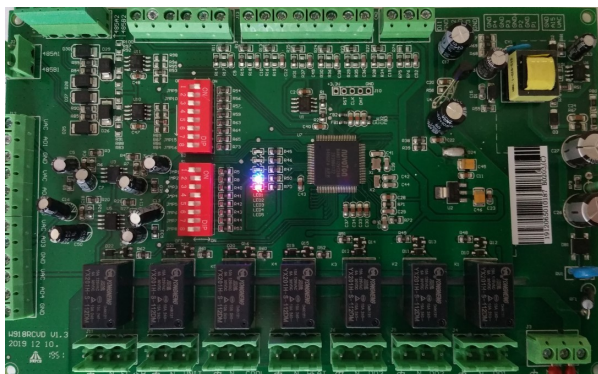

Fig. 3
2.4 FUNZIONE DEI TASTI (Fig. 3)
2.4 FUNCTION OF KEYS (Fig. 3)